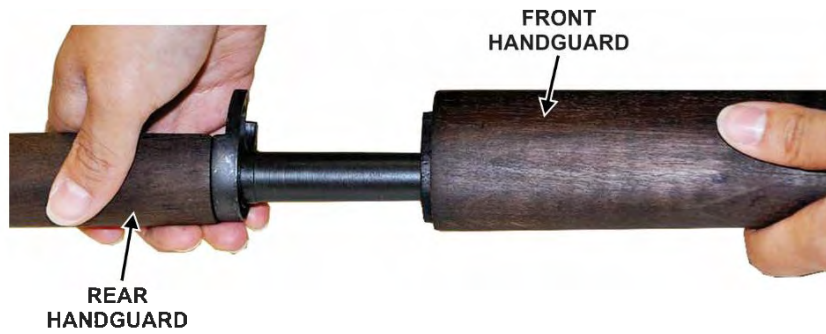

Figure 28. Removal of front handguard
10) Remove the front handguard by sliding it forward over the muzzle (fig 28).